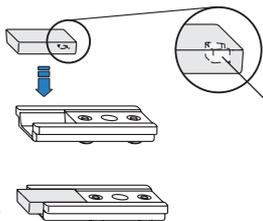

Fig. 3
| Sash | A | Press filling piece for end position damping (814) into the stop (813) (see fig. 3). |